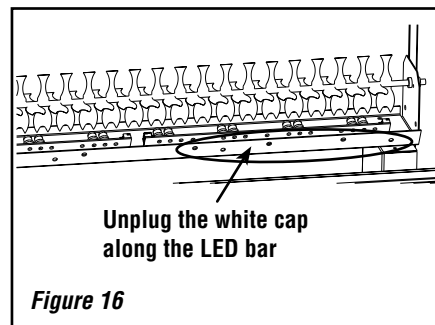

Figure 16
- iv. Unplug the white cap along the LED circuit board. Carefully remove the LED circuit board (see Figure 16).